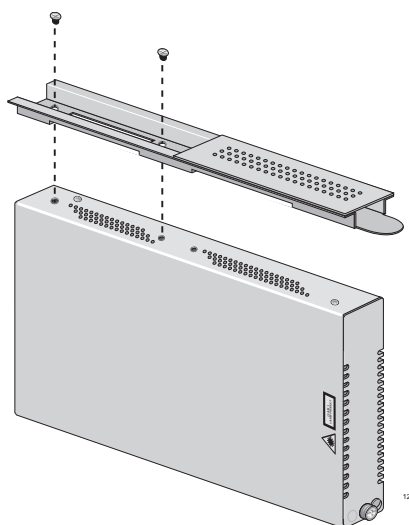

Figure 12. Installing the CVMCR Adapter on the CV1000 Chassis
3. Turn the CVMCR adapter over, align it with the base of the chassis, and attach it to the chassis with two screws (provided), as shown in Figure 12.